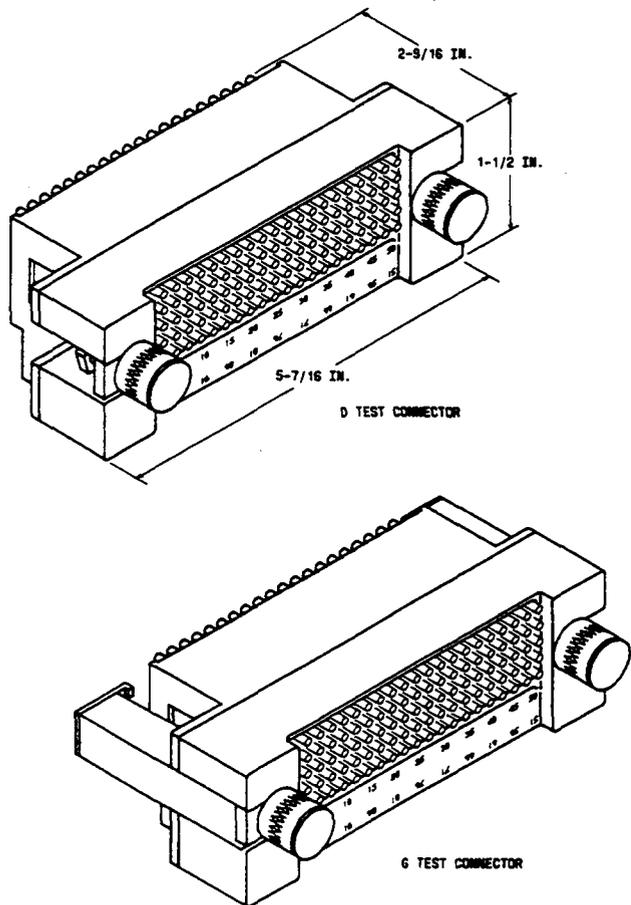

Figure 15—D and G Test Connectors — Mounting Arrangements — For 302-Type Connectors
5.06 The D test connector (Figure 15) is used to make test contacts with the 50 pairs of recessed, gold-plated test terminals on either of the two test terminal fields of the 302A1, 302B1, or 302E1 connector used on the modular protector frames. This test connector is used for one pair-at-a-time testing.